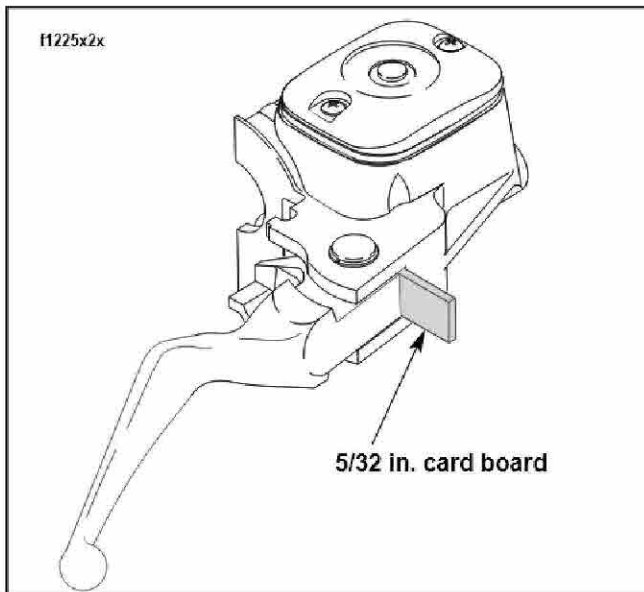

Figure 1. Install Cardboard Insert (1996 & Later)
See Figure 1. On 1996 and later models, do not remove the switch housing assembly without first placing the 5/32 inch cardboard insert between the brake lever and lever bracket. Removal without the insert may result in damage to the rubber boot and plunger of the Front Stoplight Switch.
6. See Figure 1. Refer to applicable Service Manual and remove stock throttle cables.